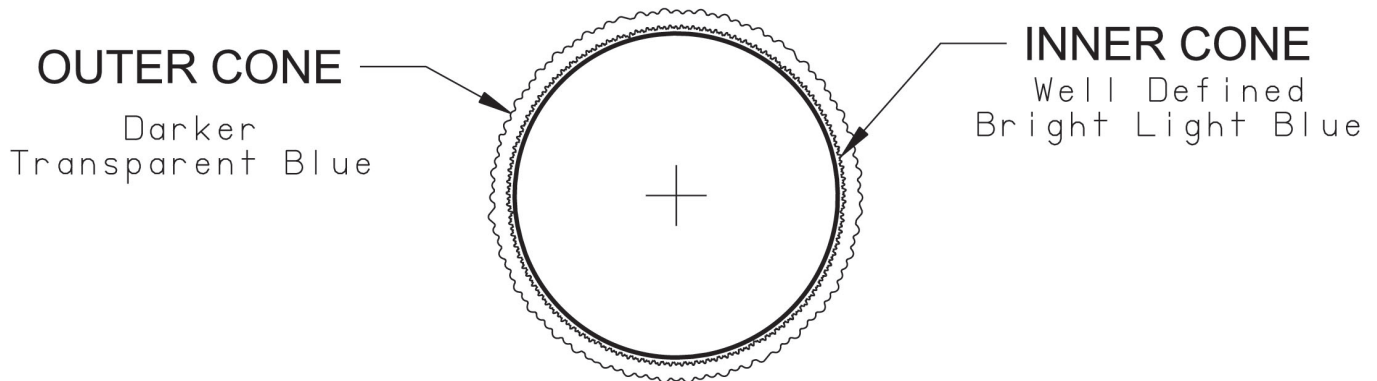

Figure 12.3: Burner Flame
- 14) Inspect the flame visible through the window. On high fire the flame should be stable and mostly blue (Figure 12.3). No yellow tipping should be present; however, intermittent flecks of yellow and orange in the flame are normal.